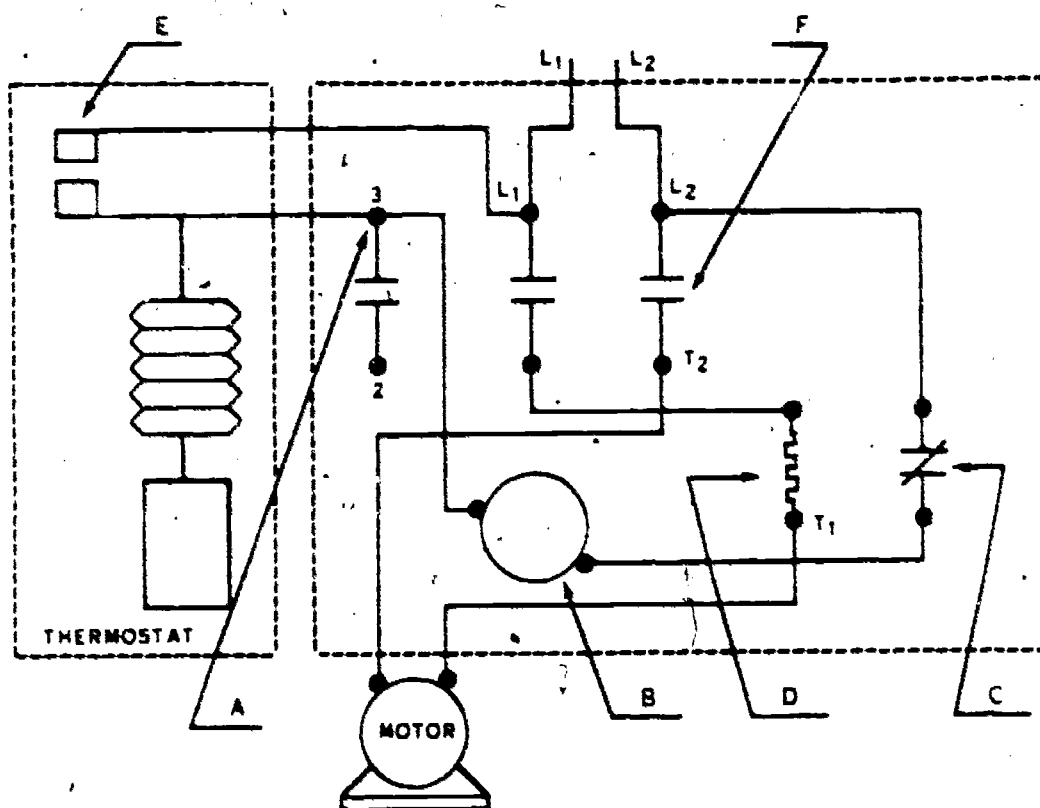

Figure 12. Single-Phase Across the Line Motor Starter
1. What type motor starter is shown in figure 12? \_\_\_\_\_
3. Using your blue pencil, trace the CONTROL circuit on figure 12. Begin at L1 and trace through the coil to L2.